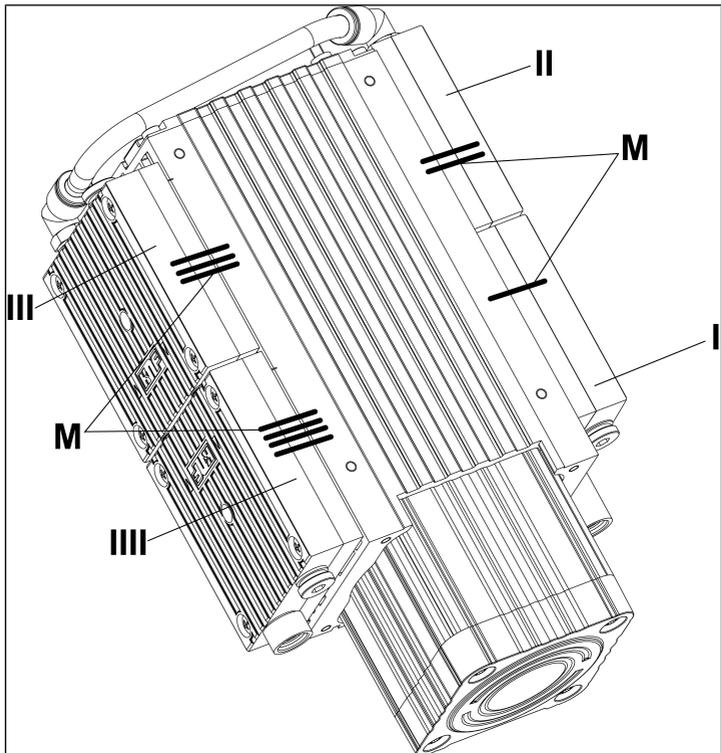
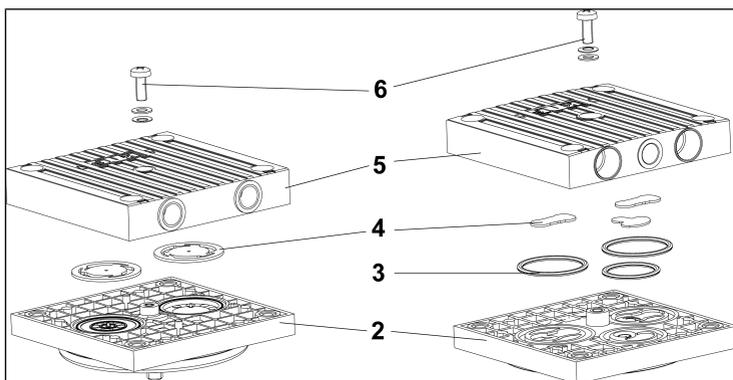

Fig. 8: Marking of the pump
Fig.11: Exploded view of the pump head
3. Head 1 (I/ Fig. 8):
4. Head 2 (II/ Fig. 8):
5. Head 3 (III/ Fig. 8):
6. Head 4 (IIII/ Fig. 8):
9. On both heads, loosen the head screw (6/ Fig. 11) in the head plate (5/ Fig. 11).
10. Remove the head plate from the intermediate plate (2/ Fig. 11).
1. Remove the valves (4/ Fig. 11) from the intermediate plates (2/ Fig. 11).
Remove the O-rings (3/Fig. 11).
3. Insert the new valves (4/Fig. 11) in the intermediate plates (2/Fig. 11).
Insert the new O-rings (3/Fig. 11) in the intermediate plates (2/Fig. 11).
5. Place the head plates (5/Fig. 11) on the intermediate plates (2/Fig. 11) according to the felt tip pen markings (M/Fig. 8).
6. On both heads, tighten the head screw of the head plate (6/Fig. 11) carefully, lightly and hand-tight (tightening torque: 60 Ncm).
5. Perform steps 6-8 (removing the pump head), as well as steps 1-6 (replacing the valve plates and fitting the intermediate plates) and steps 1-4 (replacing the diaphragms and fitting the pump head) for heads 3 and 4 (III and IIII/ Fig. 8).